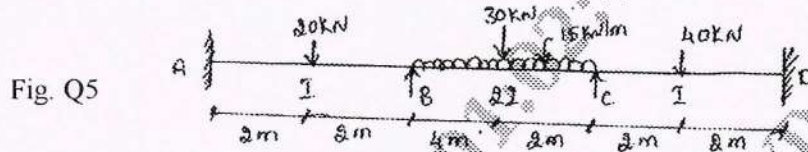

Fig. Q5
- 5 Analyze the Continuous beam shown in Fig. Q5, by Kani's method. Draw Bending Moment diagram. (20 Marks)